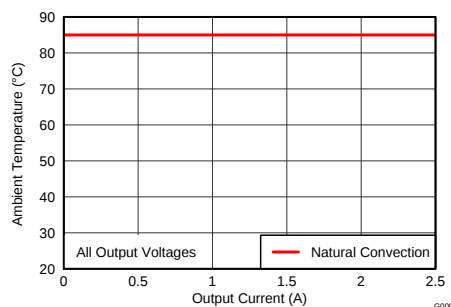

Figure 5. Safe Operating Area
- (2) The temperature derating curves represent the conditions at which internal components are at or below the manufacturer's maximum operating temperatures. Derating limits apply to devices soldered directly to a 100 mm $\times$ 100 mm double-sided PCB with 1 oz. copper. Applies to Figure 5.